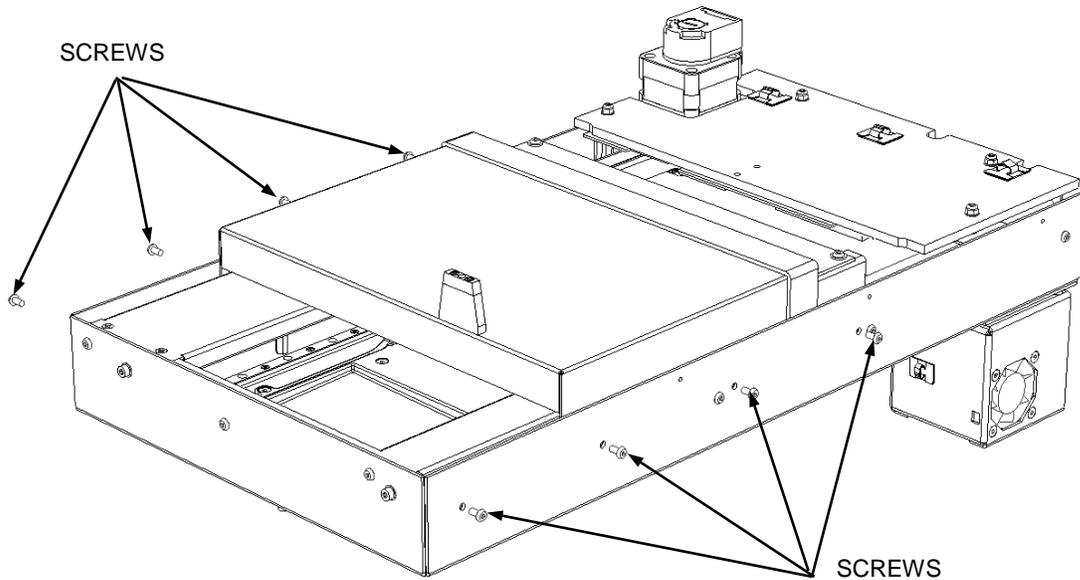

Figure 12-6: Sliding Cover Assembly
1. To remove the Sliding Cover Assembly, remove the eight screws as shown in Figure 12-6.